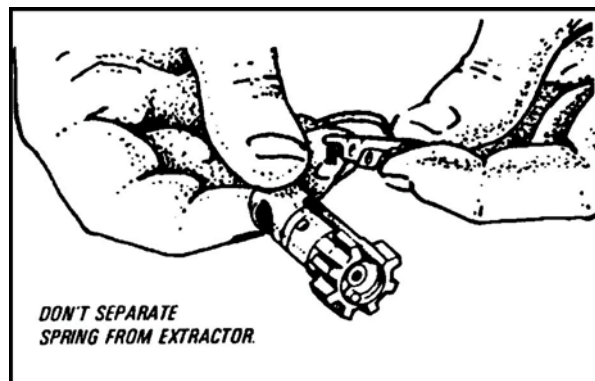

Figure 18. Removing the extractor and spring.
- p. Lift out the extractor and spring (Figure 18), taking care so that the spring does not separate from the extractor.